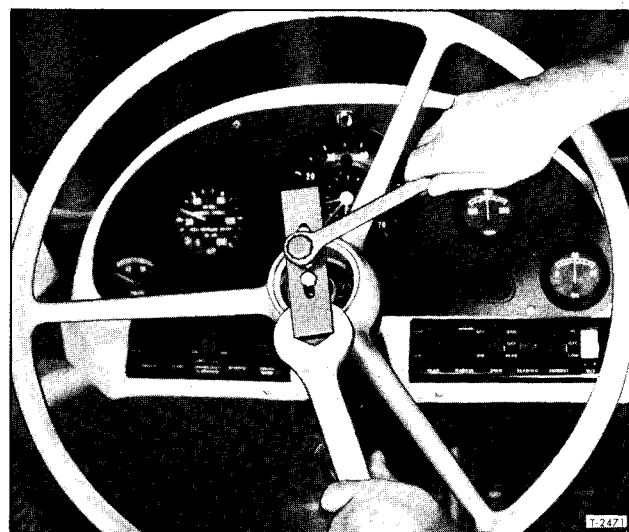

Figure 4—Removing Steering Wheel
3. Using a screwdriver, pry horn button (3) and retainer (4) from steering wheel.
4. Remove steering wheel nut (1) and washer (2) from steering column shaft.
5. Remove three screws (6) which attach cup (5), bushing (7) and Bellville spring (8) to steering wheel (16).
7. Using steering wheel puller (J-2927-01) and two puller screws with 5/16-18 threads, pull steering wheel off shaft (fig. 4).